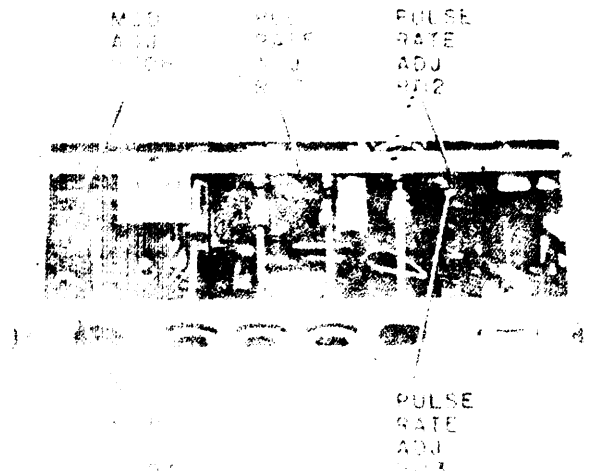

Figure 5-8. Location of Klystron and Modulator Adjustments (618C).
- c. With the MOD. SELECTOR set to CW, adjust R705 (Figure 5-8) for a klystron cathode current of 25 mA maximum (approximately 15 mA).
c. Adjust potentiometer R112 (Figure 5-8) so that the counter indicates 4800 Hz.
e. Adjust potentiometer R113 (Figure 5-8) so that counter indicates 480 Hz.
g. Adjust potentiometer R117 (Figure 5-8) so that counter indicates 30 Hz.